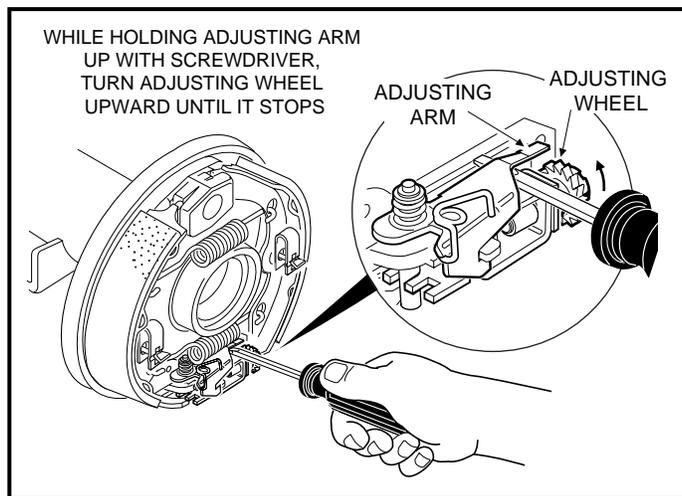

Figure 6-17 Set Adjusting Wheel
6. Place a flatblade screwdriver under the adjusting arm and raise the arm off of the adjusting wheel. While holding the arm up, turn the wheel upward until it stops (**Figure 6-17, Page 6-8**). Remove the screwdriver.